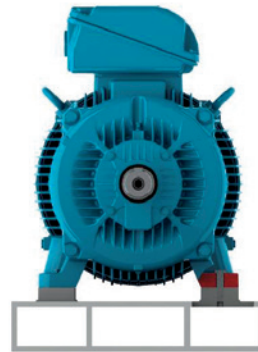

Figure 6.3 - Motor installed on metallic base
- Metallic bases: are generally used for small-size motors (see Figure 6.3).